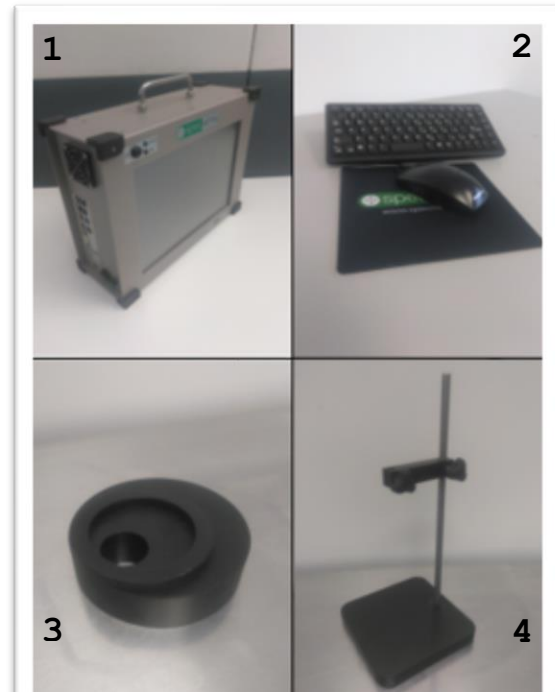

Figure 3 - Enhanced Lab Out of the Box
- The other end of either probe should be connected to the optical stand as in Figure 3, box 4.